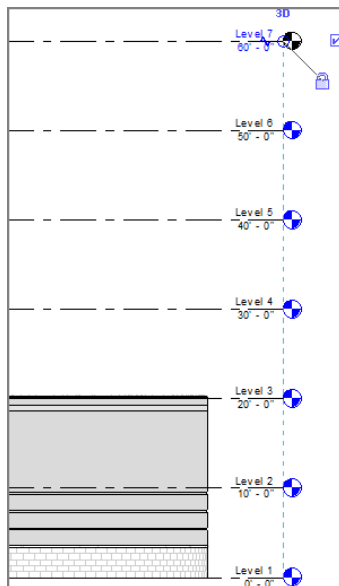

FIGURE 3.8: Levels 1 through 7 are complete.
7. With the Level command still running, create Levels 4, 5, 6, and 7. Your elevation should now look like Figure 3.8. Also, look at your Project Browser. It shouldn't have any levels other than Levels 1 through 7 and Site. You also have new levels under the Ceiling Plans category.